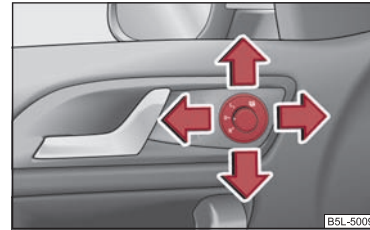

Fig. 54 Inner part of door: Rotary knob
- Turn the rotary knob to position **III** ⇒ fig. 54.
When the rotary knob is in position **R** ⇒ fig. 54 and the reverse gear is engaged, the surface of the mirror tilts down slightly. This provides an aid in seeing the kerb of the pavement when parking the car.